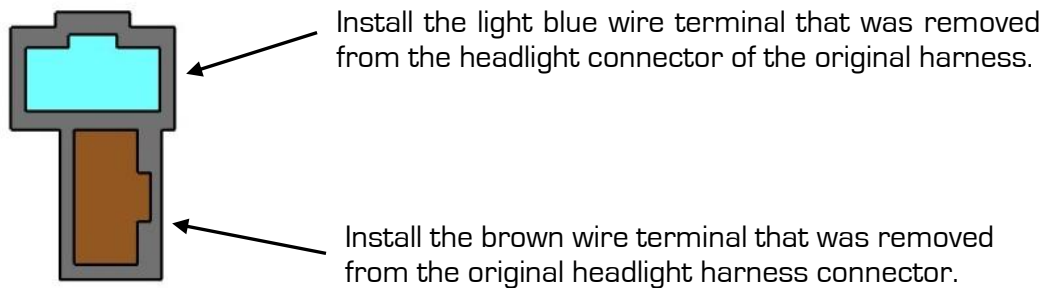

Figure 33 - End View (Harness Side)
32. Install the wire terminals which were just removed from the original headlight harness connector into the included black two terminal female Packard connector cavities (Figure 33).